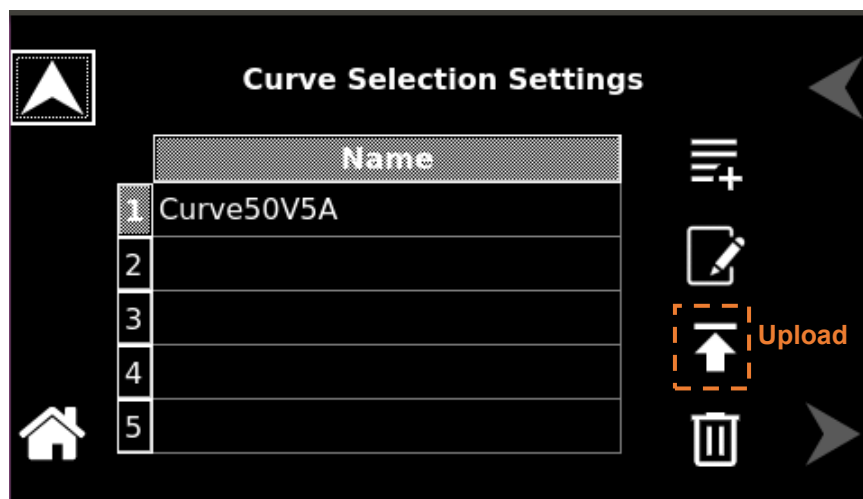

**Figure 11-55. Curve Selection Settings - Upload button enabled**
- Load the defined Curve by clicking the 'Upload' option. Refer to Figure 11-55.